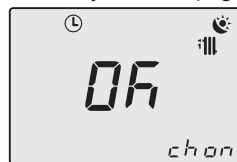

Fig. 2.20
Press key 17 briefly to save (Fig. 2.20).